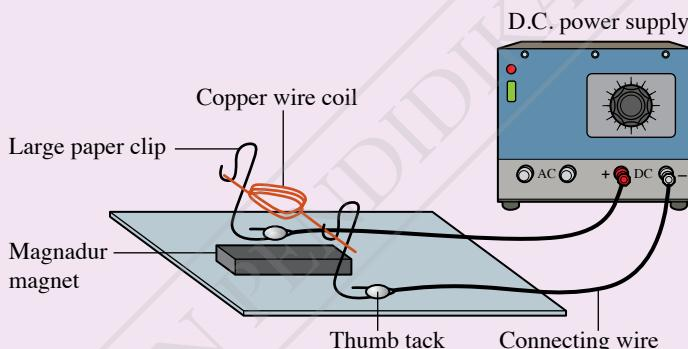

Figure 4.14
- Set up the arrangement of apparatus as shown in Figure 4.14.